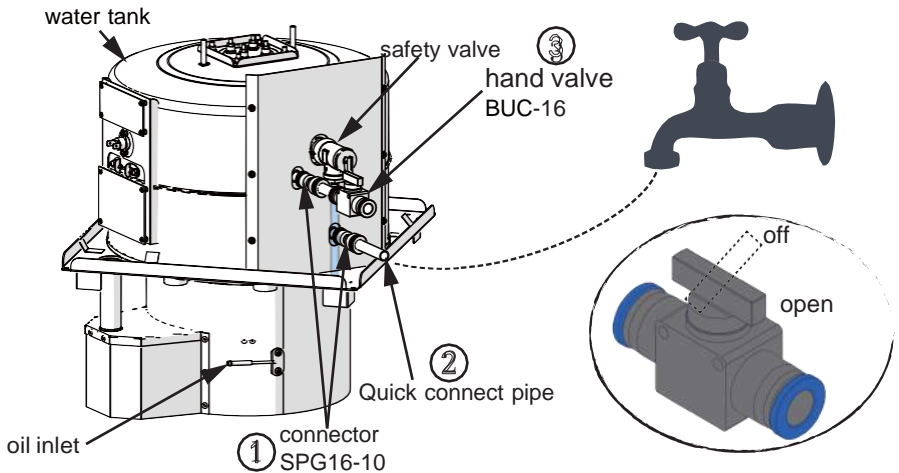

Figure 1
Flushing and sealing test can be carried out according to the method shown in Fig. 1 (Reference method):
i For the parts marked with serial numbers "①、②、③" in Fig. 1, please contact the supplier or our company if necessary.
- Keep hand valve-1, hand valve-2, hand valve-3 and hand valve-4 all open (refer to Figure 1);